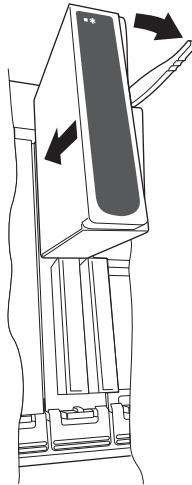

Figure 6: I/O Module installation
1. Pull the module retaining lever forwards into the unlocked position as shown in Figure 6.